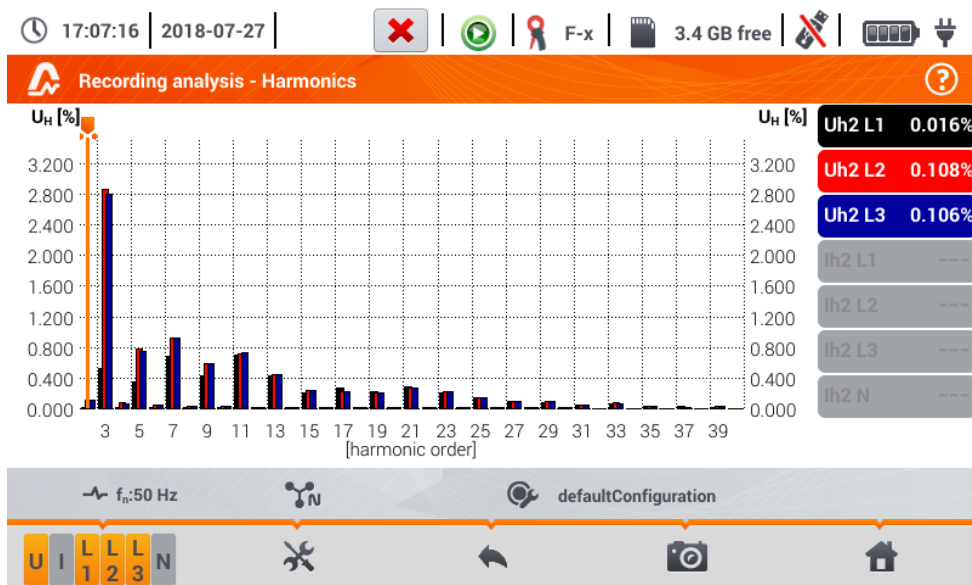

Fig. 5.23. Live mode - harmonics - bar graph
If in **section 5.8** step ③ the  icon has been selected, the screen shown in Fig. 5.23 will appear. The workspace consists of a graph, the labels menu and function icons menu. This screen allows you to view the harmonics of voltages and currents, angles between the current and voltage harmonics, cosφ factors of these currents and THD factors. Harmonics are displayed graphically in a bar graph (default) or in a table.